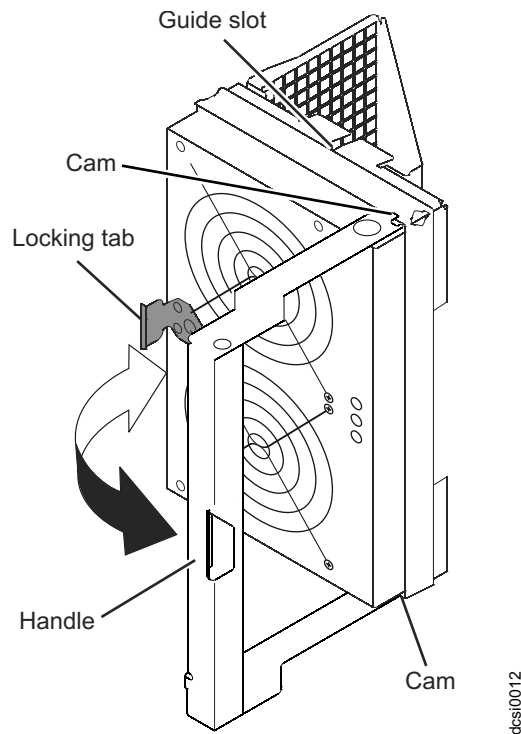

Figure 57. Removing a fan assembly
- a. At the rear of the storage expansion enclosure, remove the fan assembly (see Figure 57) by pressing on the locking tab holding the fan assembly handle in place; then, pull the fan assembly handle toward you.